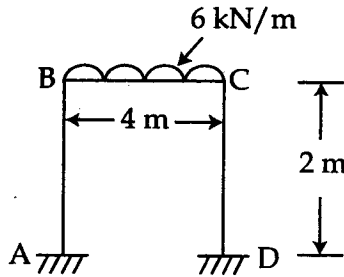

Fig. 2
4. Analyse the portal frame shown in fig. 2 by moment distribution method. $EI = \text{constant}$ 14